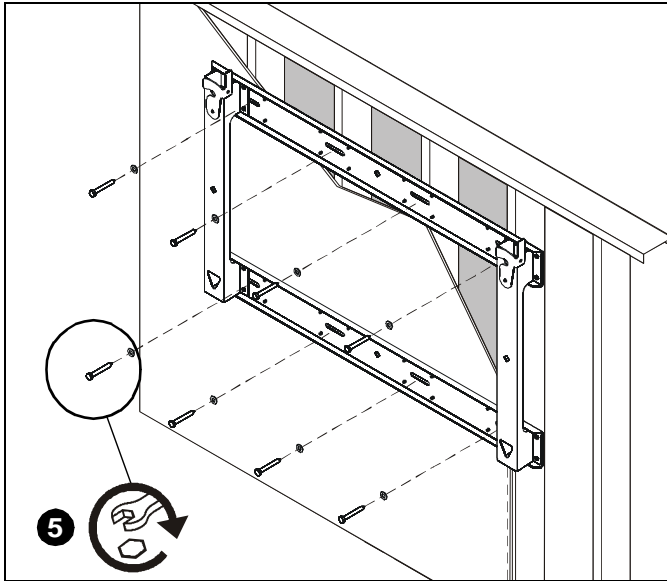

Figure 3
- Secure mount to studs using appropriate hardware for mounting surface. (See Figure 3)